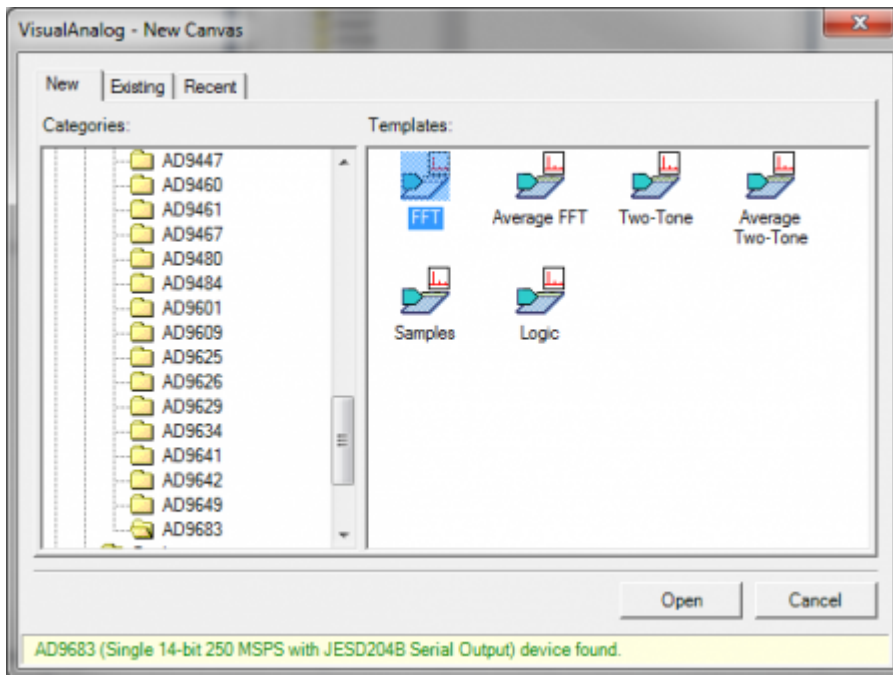

Figure 3. VisualAnalog, New
1. Open VisualAnalog on the connected PC. The appropriate part type should be listed in the status bar of the **VisualAnalog - New Canvas** window. Select the template that corresponds to the type of testing to be performed (see Figure 3, where the AD9683 is shown as an example).